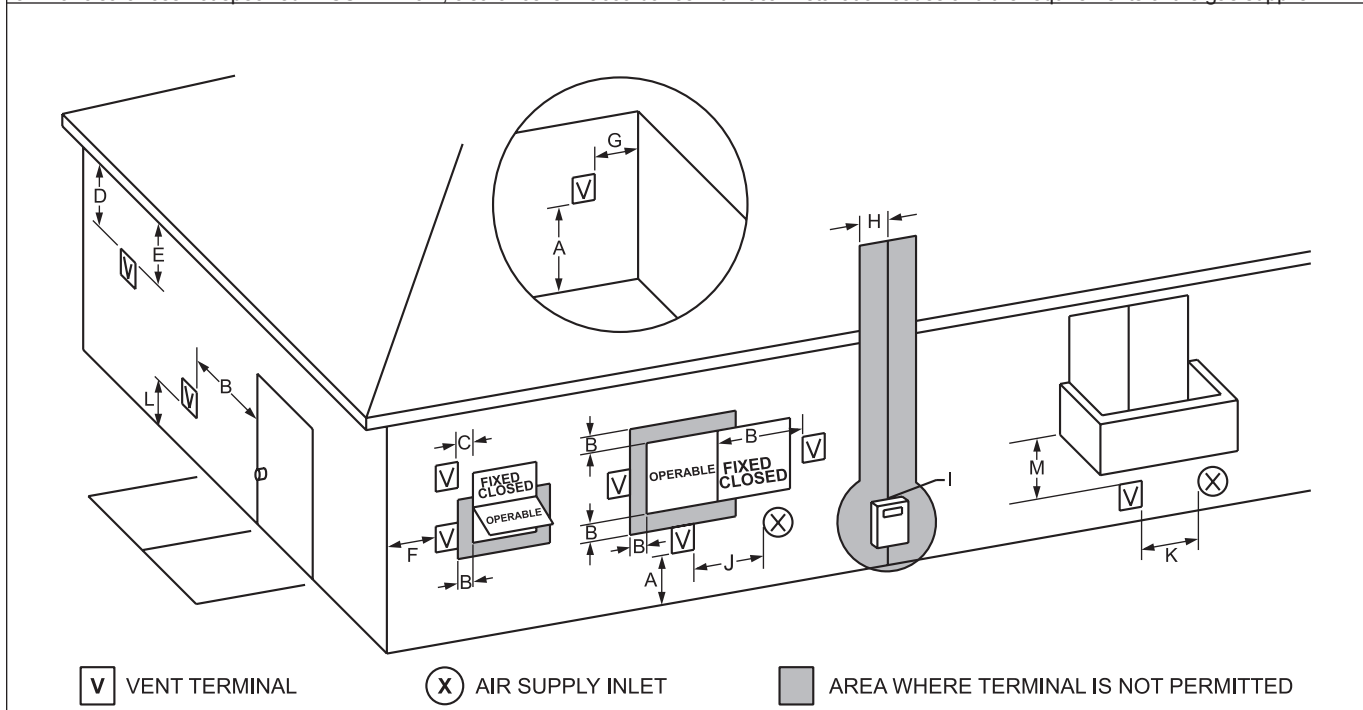

Figure 3. Combustion Air and Vent Through Side Wall.
1. **Figure 3** shows the requirements for mechanical vent terminal clearances for the U.S. and Canada.
4. If the Copper Brute II is side-wall vented to the same wall, locate the vent terminal at least 3 feet (0.9m) horizontally from the combustion air terminal, and locate the vent terminal at least 1 foot (0.3m) above the combustion air terminal (see **Figure 3**).